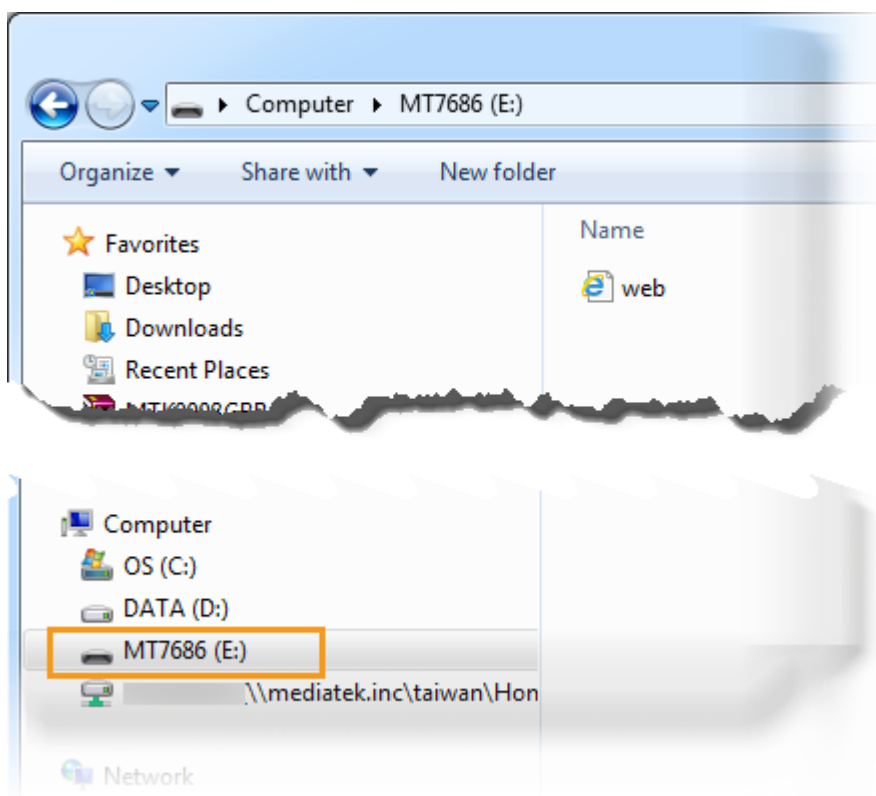

Figure 4. New removable storage detected
- 2) Navigate to **Computer** on your PC to check if a new mass storage named **MT7686** is available under **Removable Disk**, as shown in Figure 4.